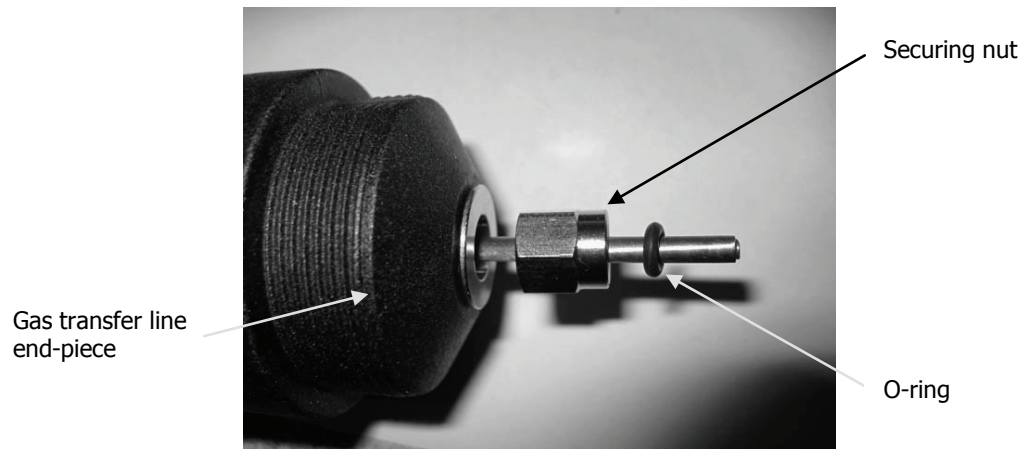

Figure 57 Gas transfer line ready for connection
12. Take your gas transfer line and place the securing nut and O-ring onto the end of it (Figure 57).